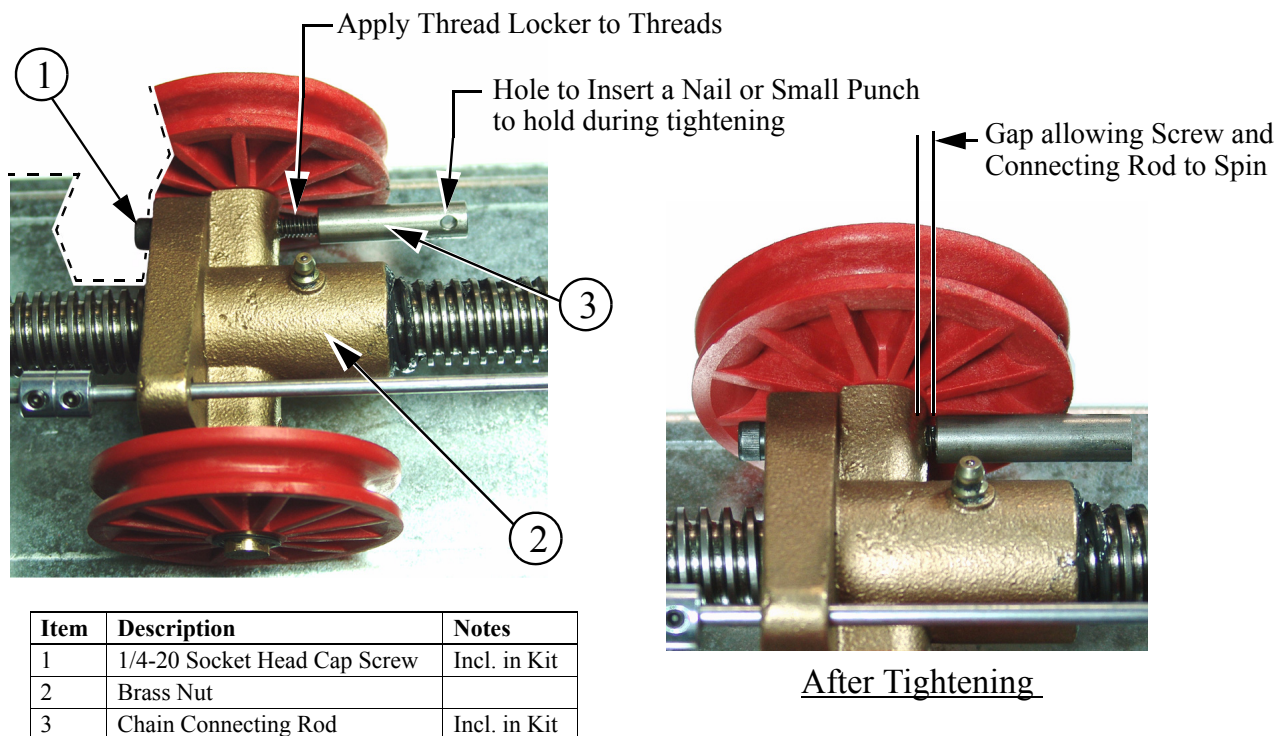

Figure 5. Attaching the Socket Head Cap Screw and Chain Connecting Rod
7. Insert a 1/4-20 x 2-1/4" Socket Head Cap Screw (**Item 1, Figure 5**) through the Brass Nut (**Item 2**) and slightly thread on a Chain Connecting Rod (**Item 3**) as shown.
Important! Apply Thread Locker (Locktite® for example) to the Socket Head Cap Screw threads (**See Figure 5**). Tighten the Screw with an Allen wrench until it can not be turned. Use a nail or a small punch to insert into the small hole in the Chain Connecting Rod to hold it during tightening.
Note: After tightening, there should be a slight gap between the Connecting Rod and the Brass Nut (**See Figure 5**). The Connecting Rod and Socket Head Cap Screw should spin freely in the Brass Nut. If the Connecting Rod tightens down against the Brass Nut, Loosen the Screw until it is free to spin.